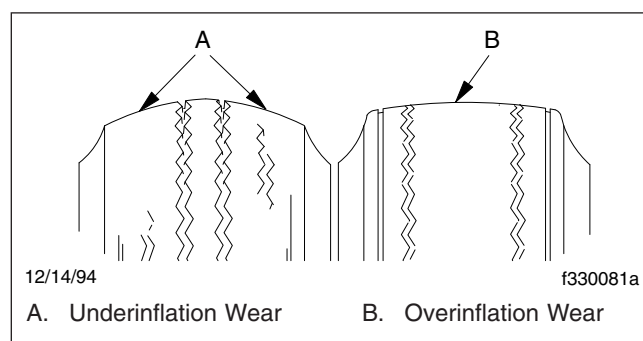

Fig. 1, Tire Damage Due to Underinflated or Overinflated Tires
3. Check the inflation pressure of the tires. Refer to **Group 40** in this manual for recommended pressures. An underinflated tire causes tread wear completely around both tire shoulders. An overinflated tire causes tread wear in the center of the tire. See **Fig. 1**.